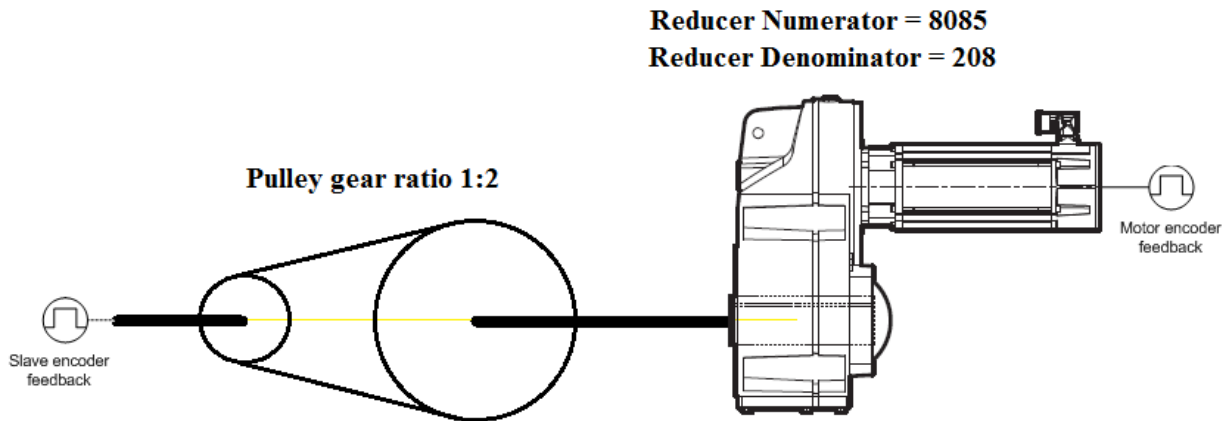

Figure 6
- There is a pulley gear ratio of 1:2 between the motor reducer and the slave encoder feedback (Figure 6);
- There is a motor gear (reducer) with ratio of 8085:208 between the motor reducer and the motor encoder feedback (Figure 6);